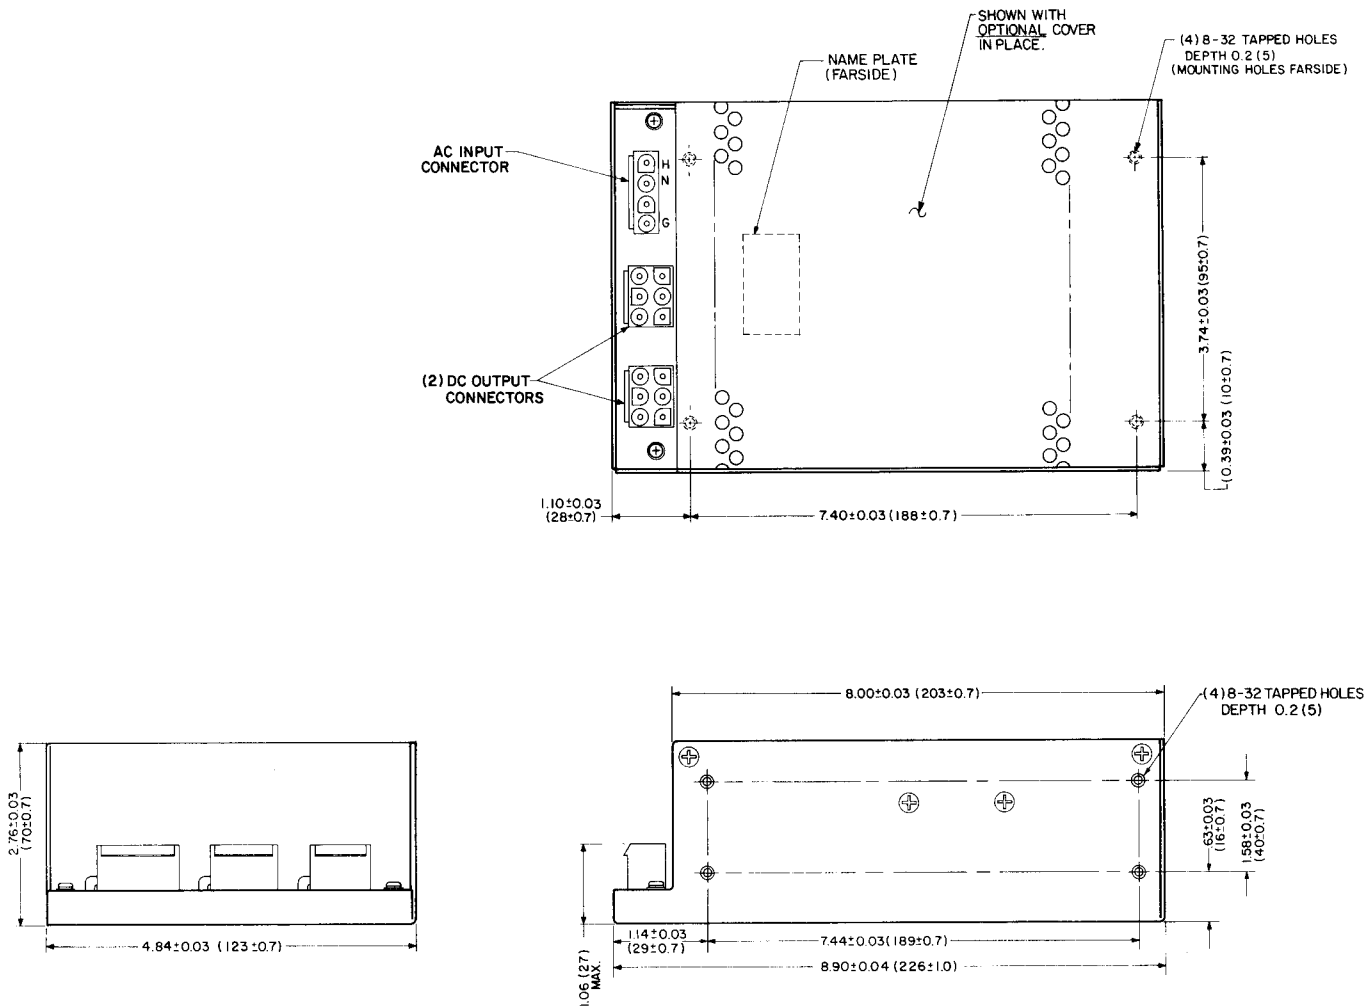

FIG. 4 MECHANICAL OUTLINE DRAWING, ERX-120W SERIES, WITH (OPTIONAL) COVER.
SCOPE OF MANUAL. This instruction manual contains information for the installation and operation of the Kepco ERX-120W Series of Switching Power Supplies. For service information, please refer to the Service Manual for the ERX Series, which can be purchased, either from your Kepco Representative, or by writing directly to: Kepco Inc., 131-38 Sanford Avenue, Flushing, New York, 11352, U.S.A. When ordering a Service Manual, please state **Model Designation and Serial Number of your ERX power supply**. This information can be found on the NAME PLATE of your ERX power supply, as indicated in FIG. 4.
INSTALLATION: The ERX power supply may be mounted in any position. Four (4) mounting holes are provided on the side, as well as on the bottom surface, as indicated in Fig. 4. Care should be taken that the air immediately surrounding the power supply does not exceed the specified ambient temperature value. Cooler power supply operation can often be achieved by careful selection of the mounting surface.